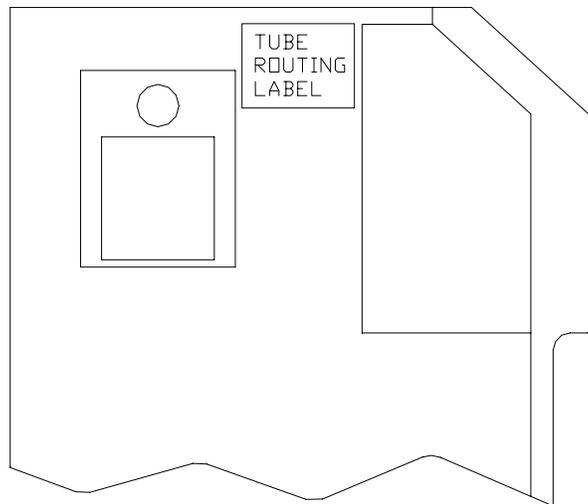

Figure 5 Tube Routing Label
19. Install the supplied tubing installation diagram on the side of the 2700 case as shown in Figure 5.